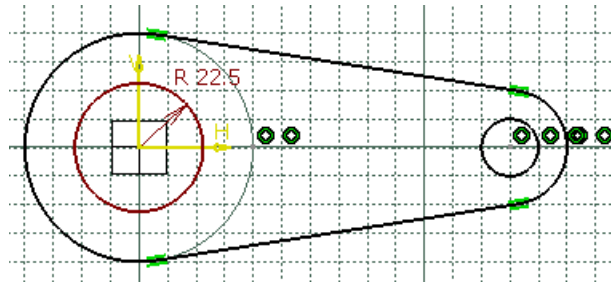

Figure 3-57 Final sketch after creating the outer loop
- Draw the inner loops of the sketch using the **Circle** tool, refer to Figure 3-57.
6. Move the cursor horizontally toward the right and specify a point on the circle, when the coordinate values on the cursor shows 140,0. The final sketch, after creating the outer and inner loops, is shown in Figure 3-57.